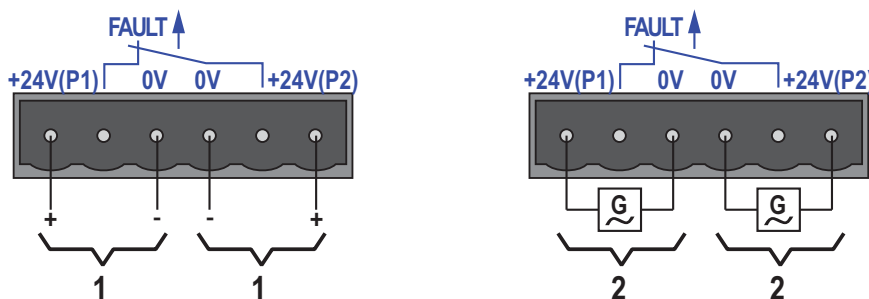

Figure 12: Connecting the supply voltage at the 6-pin terminal block
You can choose between DC or AC voltage when connecting the supply voltage. You use the +24V and 0V pins to connect the AC voltage (see figure 12).
- ▶ The signal contact (“FAULT”, for pin assignment of terminal block, see figure 12) monitors the functioning of the device, thus enabling remote diagnostics.